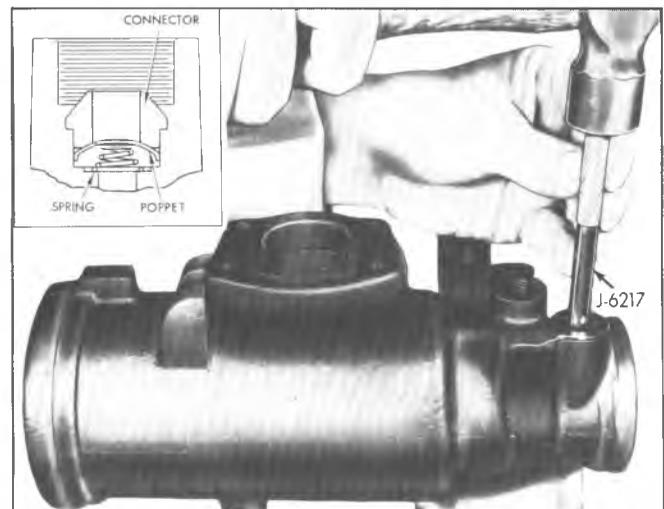

Fig 49—Installing New Connector in Housing
5. Drive the new connector against the housing seat using Tool J-6217, being careful not to damage either the connector or housing seat (fig. 49).